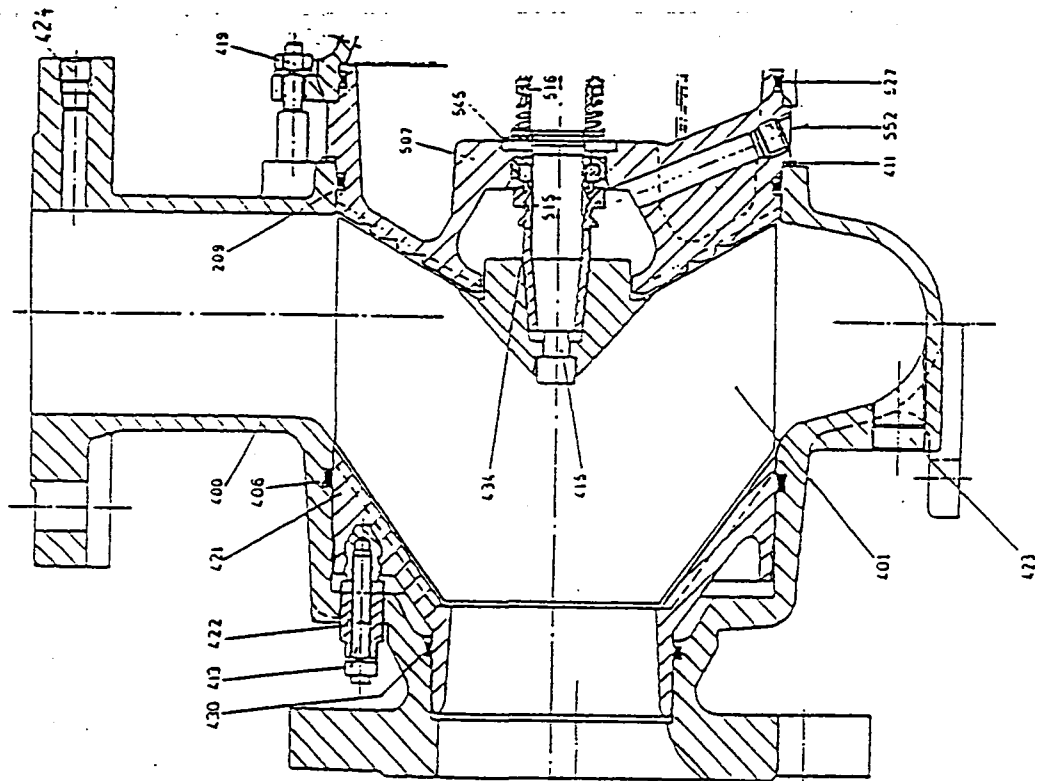

FIGURE 18: C 080
Grease O-Ring (209) and place into groove on spigot of motor (see Figure 18).
Now install motor-impeller assembly into volute casing. Install and tighten nuts (419) (See Figure 18).